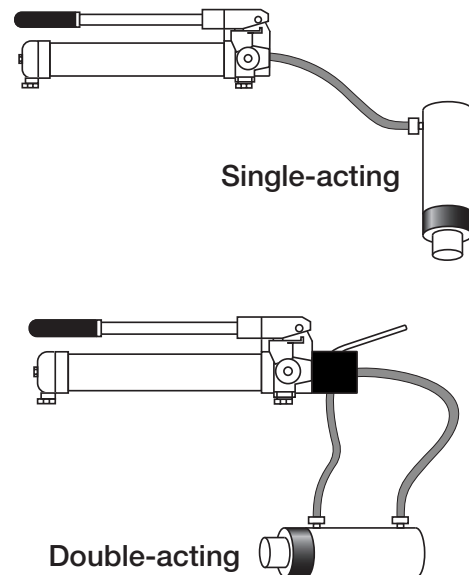

Figure 4
4. For single-acting pump models, position cylinder with the hydraulic port end located higher than the moving end. For double-acting hand pump models, position cylinder so that the hydraulic ports are facing upward. Refer to diagrams in Figure 4 for reference.